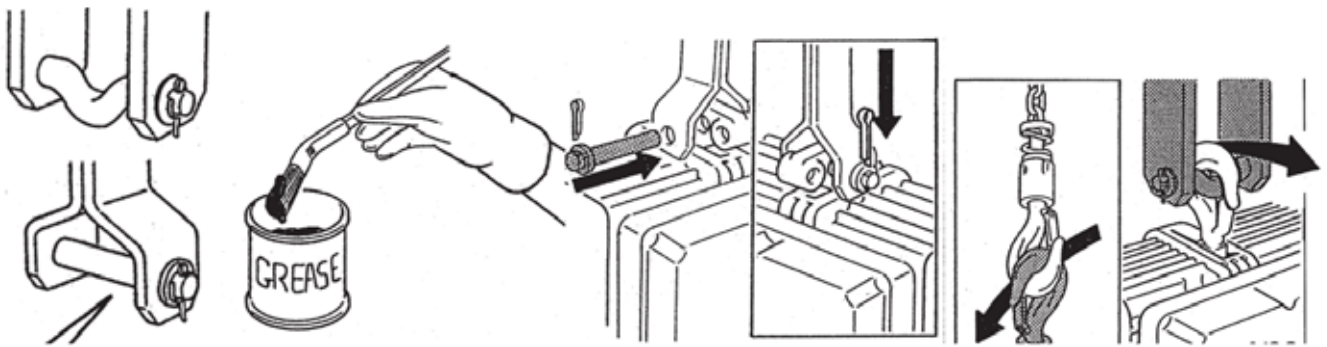

fig.19
1. Prepare the fixing point and grease the point of contact with the eye bolt bracket or the hook in the case of a hoist with hook suspension. (fig.19)
2. Attach the hoist to the designated attachment system, either through the central hole of the eyebolt bracket or to the hook (for hoists with hook suspension), to allow tilting. (fig.19)